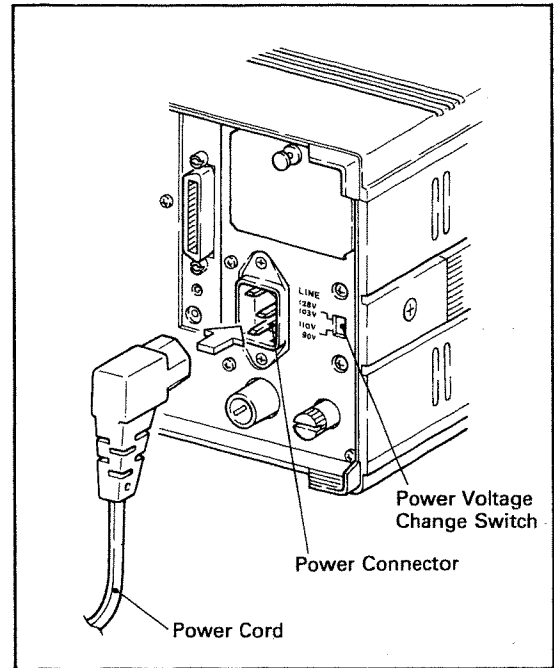

Figure 2.
- 1) Make sure the power switch of the instrument is turned OFF, and engage the furnished power cord with the power connector on the rear panel of the instrument shown in Figure 2.
- Ensure the power voltage change switch located on the right of the connector shown in Figure 2 is in the proper position, down when power voltage is 100 V (200 V) according to the label, or up when 115 V (230 V).
(2) Turning ON Power Switch